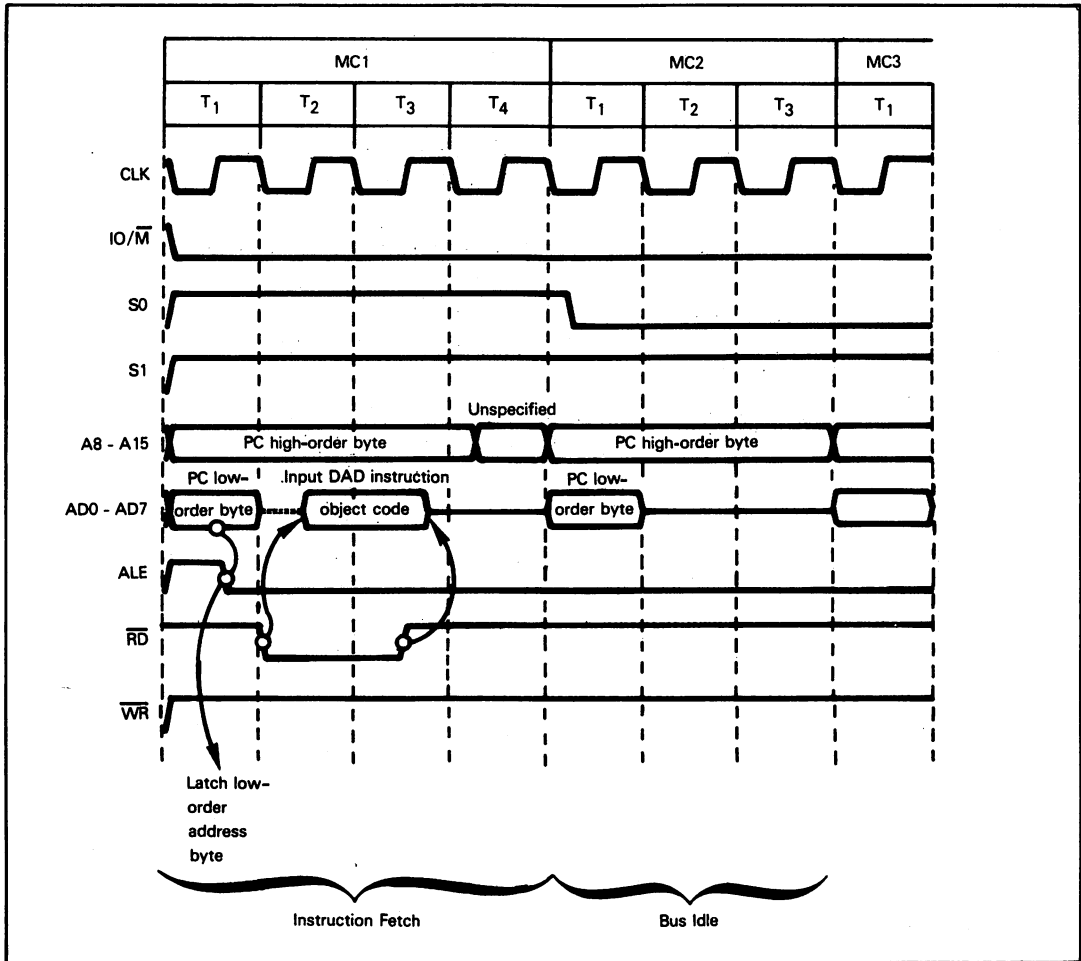

Figure 5-10. A Bus Idle Machine Cycle Following an Instruction Fetch During Execution of a DAD Instruction
- 2) The instruction execute Bus Idle machine cycle. Only the DAD instruction uses this machine cycle. The DAD instruction adds the contents of two CPU registers to two other CPU registers. It takes six clock periods for logic internal to the 8085A CPU to complete these operations. The six clock periods are generated via two instruction execute Bus Idle machine cycles. Timing is illustrated in Figure 5-10.